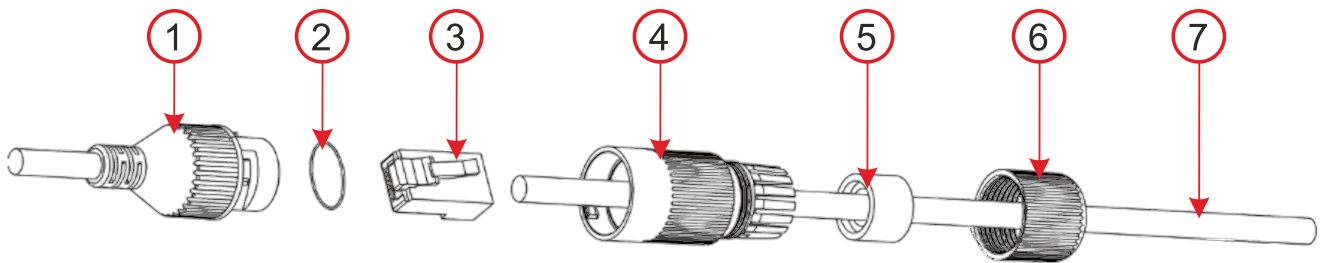

Fig. 4: How to fold the waterproof LAN connector cover
3. Drill holes in the selected location with a Ø 6mm drill bit and fix with dowels from the package. Open the mounting base by removing the screws. Depending on the selected cable feed method – centre or side (8), prepare a hole for running the cables. In case of side installation use the cable grommet (4, 5, 6) for the selected hole – (the cable grommet is included in the packing), use the blanking plug (7) for the unused one.
4. Pull the LAN cable through the back of the socket. Screw the back of the socket onto the selected place on the wall with the three screws provided in the packaging. crimp the RJ-45 connector with crimping pliers (see Fig. 4).
5. Plug the RJ-45 connector to LAN connector. If the utilized router or switch does not provide PoE (power over Ethernet), connect the camera power (9) connector to an external 12 V DC power supply (min. 0.5 A).
6. Release the camera mount (14) by turning the rotating ring (1) counter-clockwise when facing the back of the camera. Screw the lid of the mounting socket onto the bottom of the socket and screw the camera mount to the mounting socket using the three screws included in the packaging.